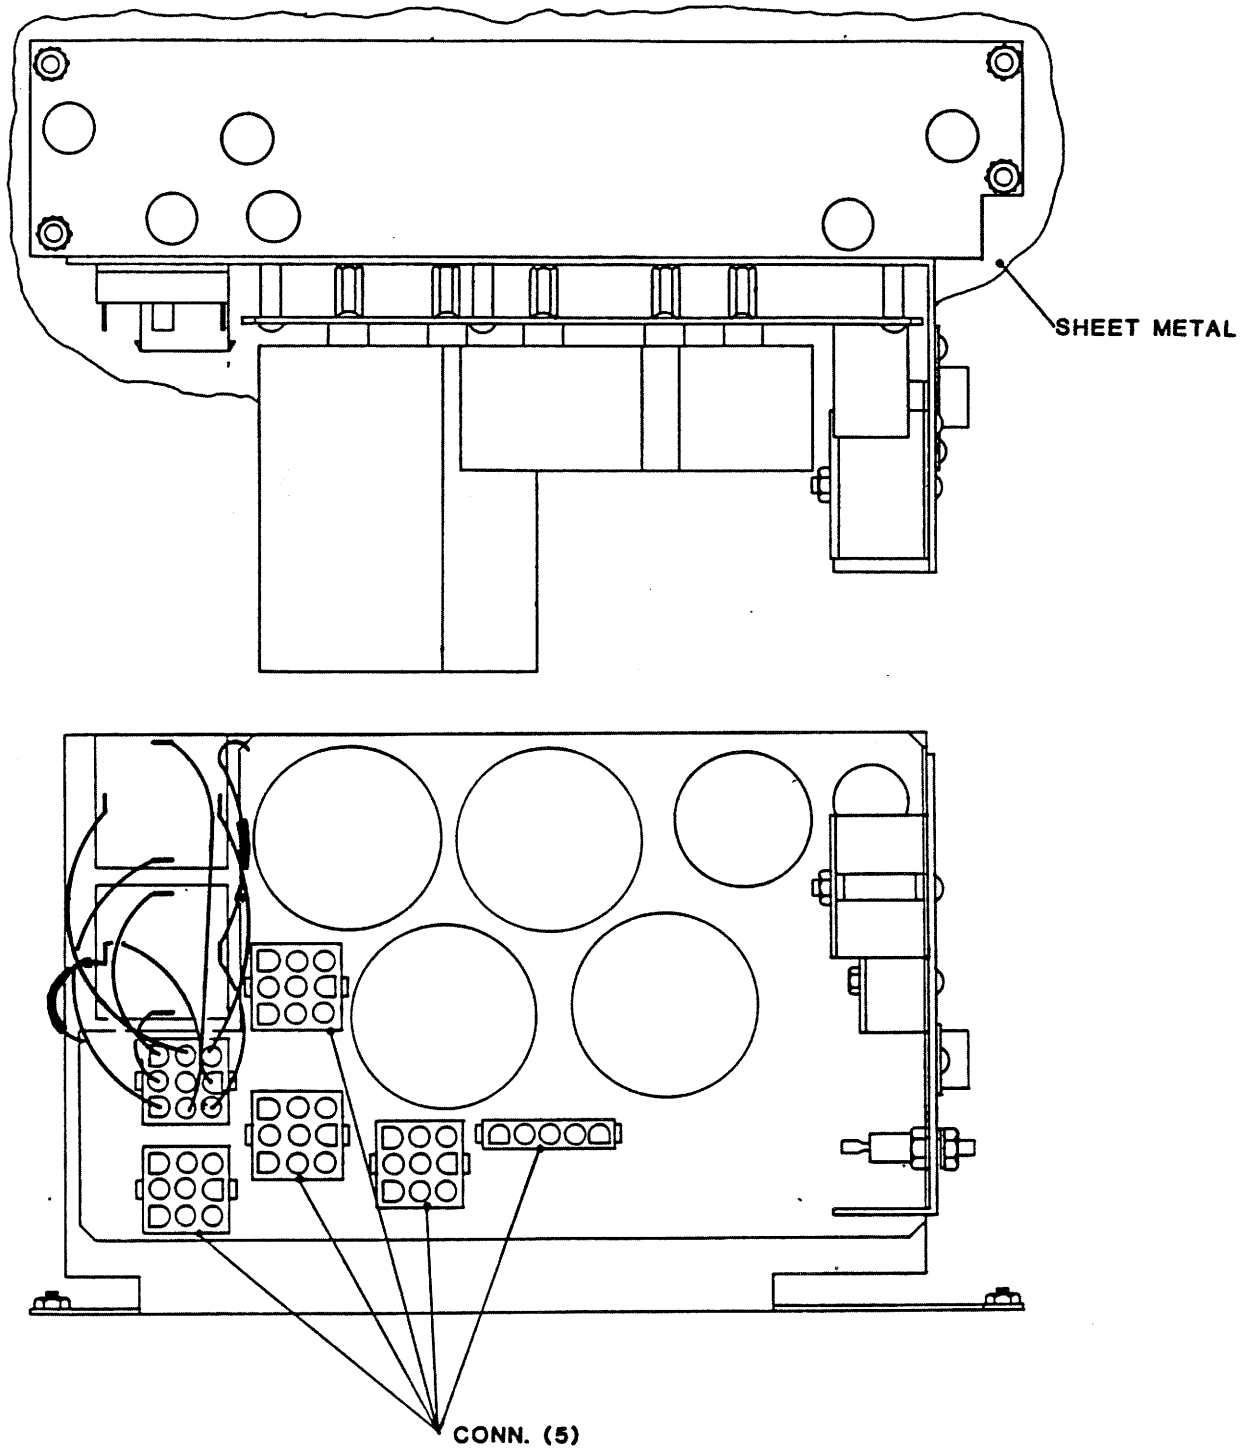

Figure 4-14 5 VDC Regulator Power Supply
**4.3.16 5 VDC REGULATOR POWER SUPPLY (Fig. 4-14)**
1. Unplug the five connectors shown in Figure 4-14 from the Power Supply: Tag each connector for identification as you disconnect it, noting its mating receptacle.